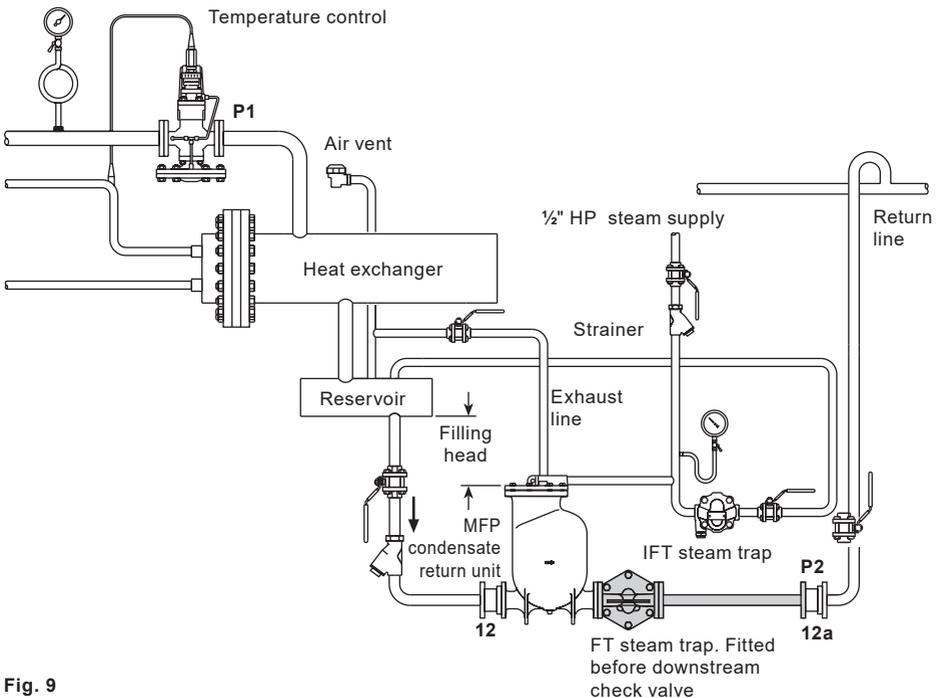

Fig. 9
6. If, at any time, the backpressure against the return unit is less than the pressure in the equipment being drained, a properly sized float and thermostatic trap must be installed between the return unit and discharge check valve as shown in Fig. 9.